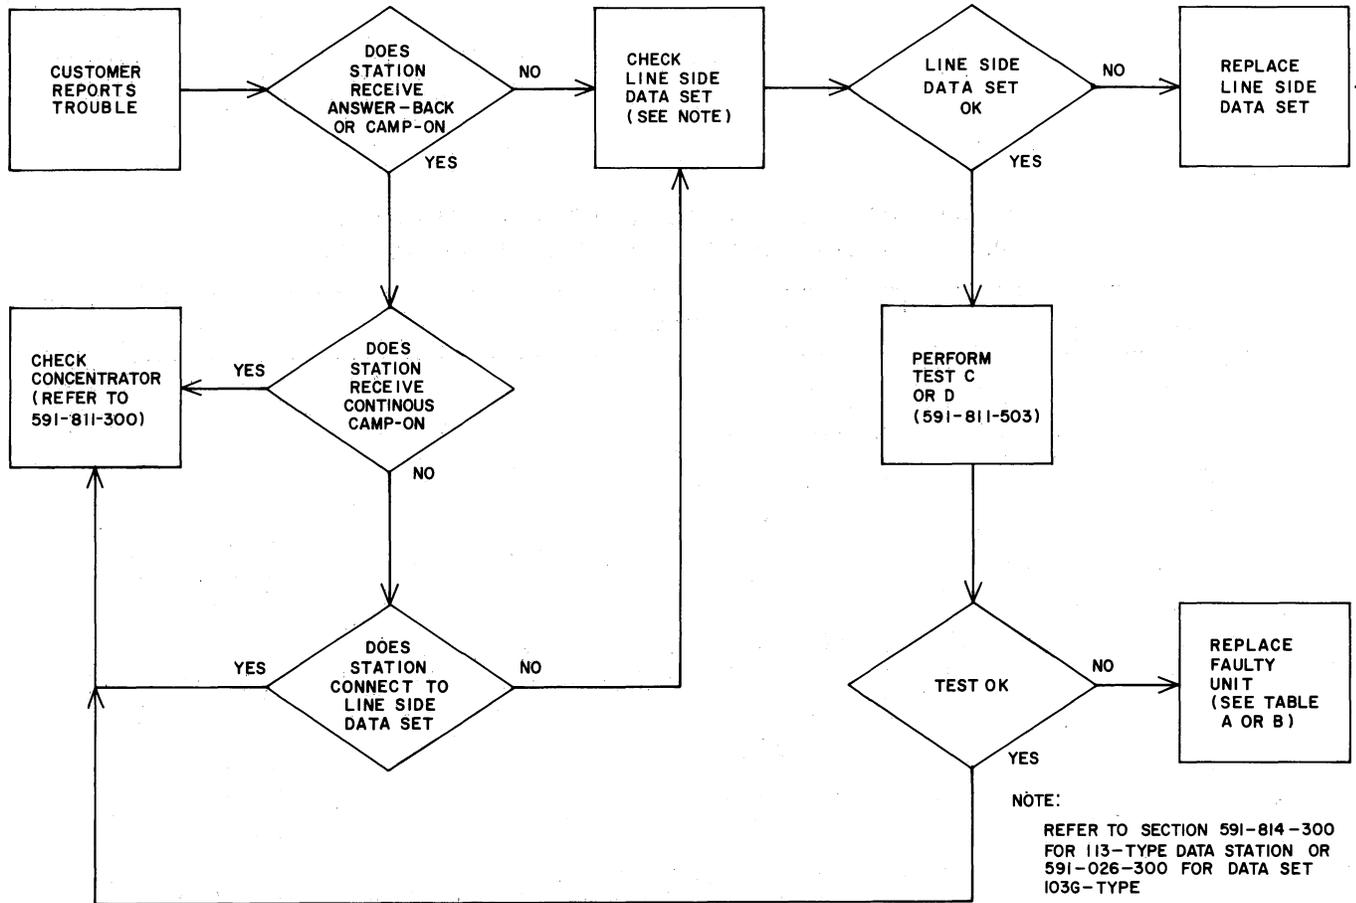

Fig. 2—Troubleshooting Flowchart for DATA-PHONE Interconnection Arrangement Used With 10-Type Data Line Concentrator
2.02 The troubleshooting flowchart (Fig. 2) is recommended for an organized trouble investigation to reduce the amount of time spent in locating the source of trouble. The tests referenced in this part and Fig. 2 should be made in accordance with the section referenced in 1.06.
2.06 When only one interconnection arrangement is in trouble, troubleshooting should be in accordance with Fig. 2. If a data set or circuit pack fails a test, it should be replaced with one that is known to be operating properly and the test(s) should be repeated.